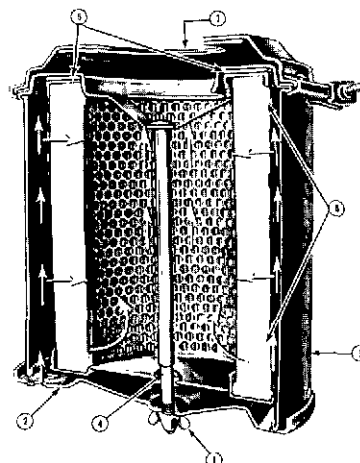

Fig. 2-14 (N11003) Air cleaner (dry-type)
1. Loosen wing nut (1, Fig. 2-14) securing bottom cover (2) to cleaner housing (3). Remove cover.
2. Pull element (6) down from center bolt (4).
3. Remove gasket (5) from outlet end (7) of housing.